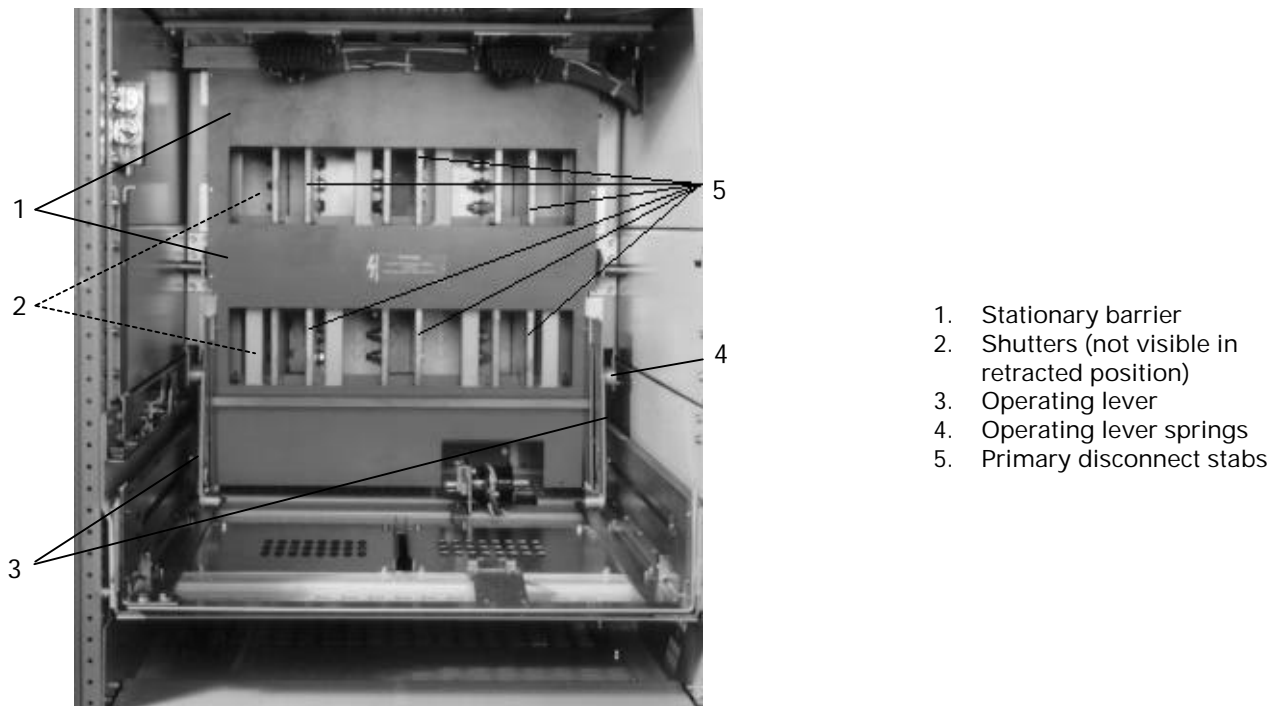

Fig. 3-7. Entellisys primary disconnect shutter assembly (30-inch wide compartment).
Fig. 3-7 also shows the shutter assembly with the shutters manually retracted to show the location of the primary disconnect stabs (5) behind the shutter assembly.